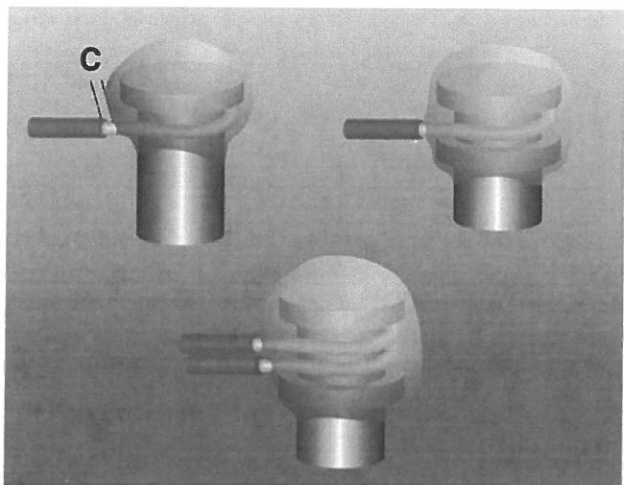

Figure 12-1
Solder connection has an egg-shaped, spherical or oval profile that follows the contour of terminal and wire wrap, Figure 12-1.
All sharp edges of the component lead and terminals are completely covered with a continuous smooth rounded layer of solder forming a solder ball, Figures 12-1 and 12-2 (A).